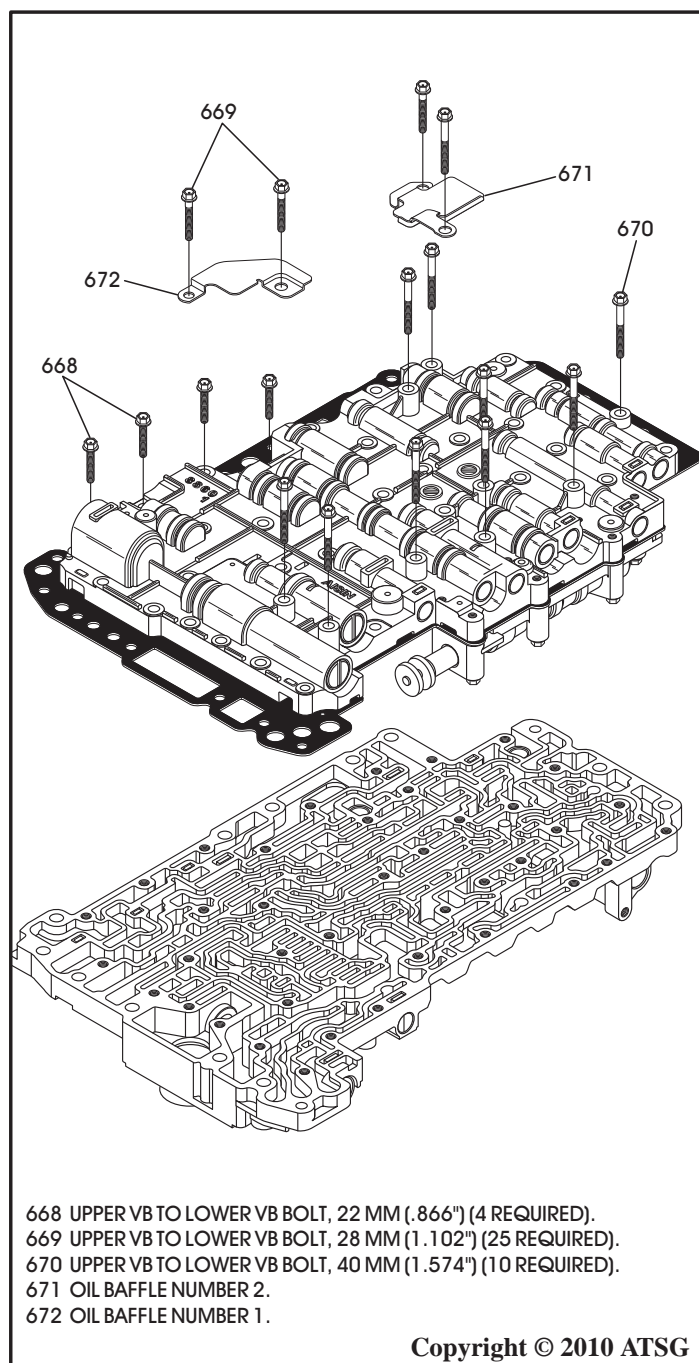

Figure 168
4. Turn the valve body assembly over, as shown in Figure 168.
5. Remove the 39 upper to lower valve body bolts, as shown in Figure 168.
**Note:** There are three different lengths of these bolts See Legend in Figure 168.
6. Remove the two oil baffles, as shown in Figure 168.